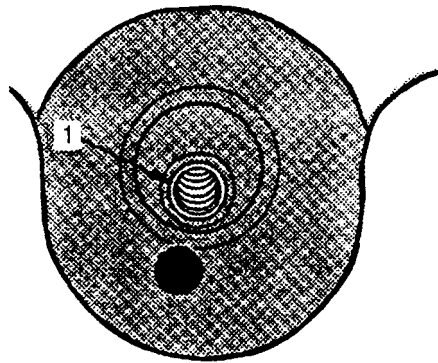

FIGURE 3-48. Installing Oil Filter Nipple
- (1) Put oil filter nipple over its bore in cylinder block. Turn oil filter nipple so oil hole is as low as possible, refer to FIGURE 3-48.
- (2) Using a tubular driver, push oil filter nipple into cylinder block until it is flush with cylinder block, refer to FIGURE 3-48.